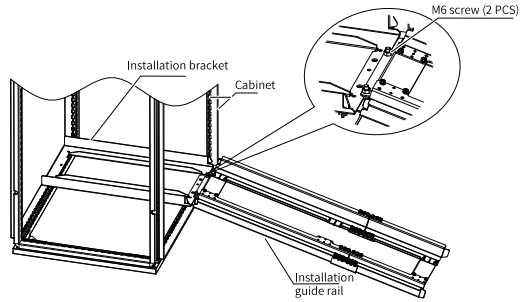

Figure 5-9 Mounting the guide rails on the cabinet
b. Align the two round holes on the front end of the guide rails with the screws of the mounting bracket, and lock them with two M6 nuts, to mount the guide rails on the cabinet, as shown in *"Figure 5-9 " on page 69 .*